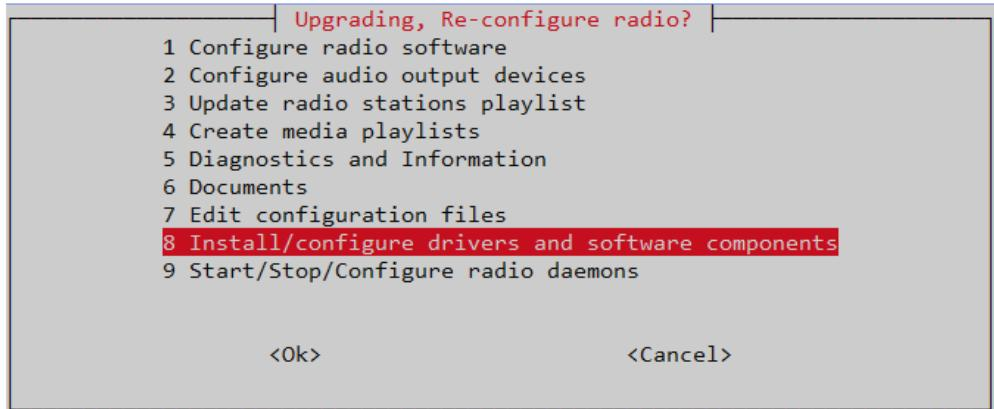

Figure 193 The radio-config menu
- Select option **8 Install/configure drivers and software components** from the **radio-config** menu shown in *Figure 193 The radio-config menu* on page 140.
- Select option **1 Install IR remote control** from the **radio-config** menu shown in *Figure 193 The radio-config menu* on page 140.
- Select option **2 Install Web Interface** from the **radio-config** menu shown in *Figure 193 The radio-config menu* on page 140.